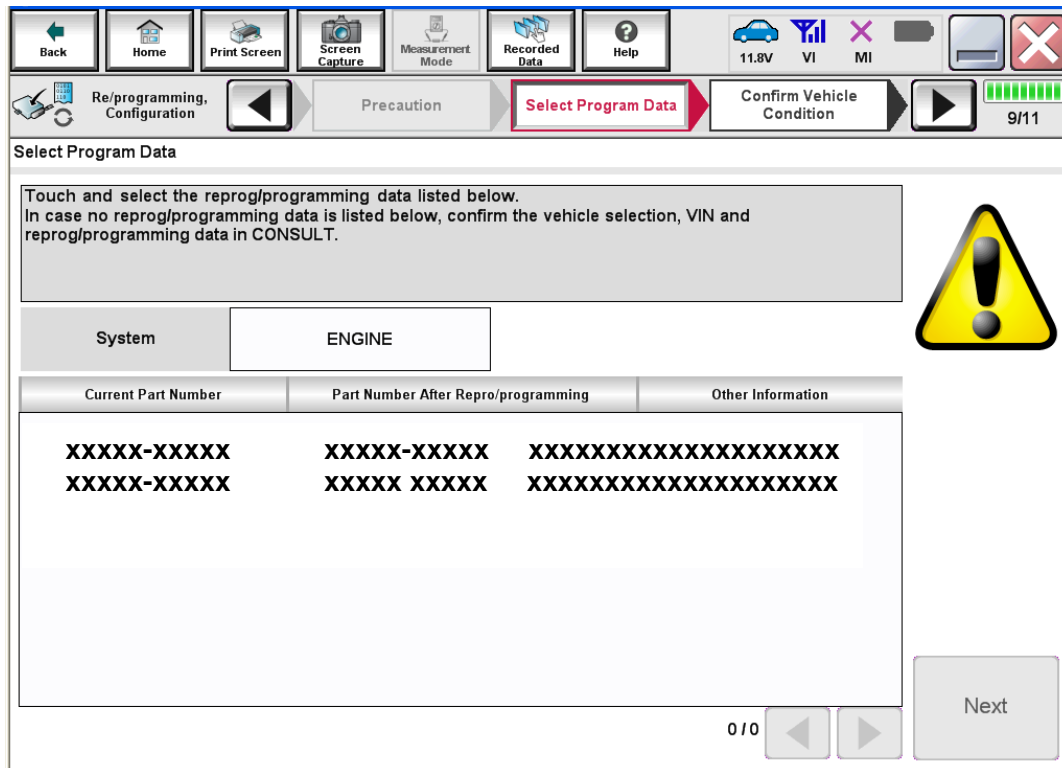

Figure 3
1. If more than one new P/N is available, the screen in Figure 3 displays.